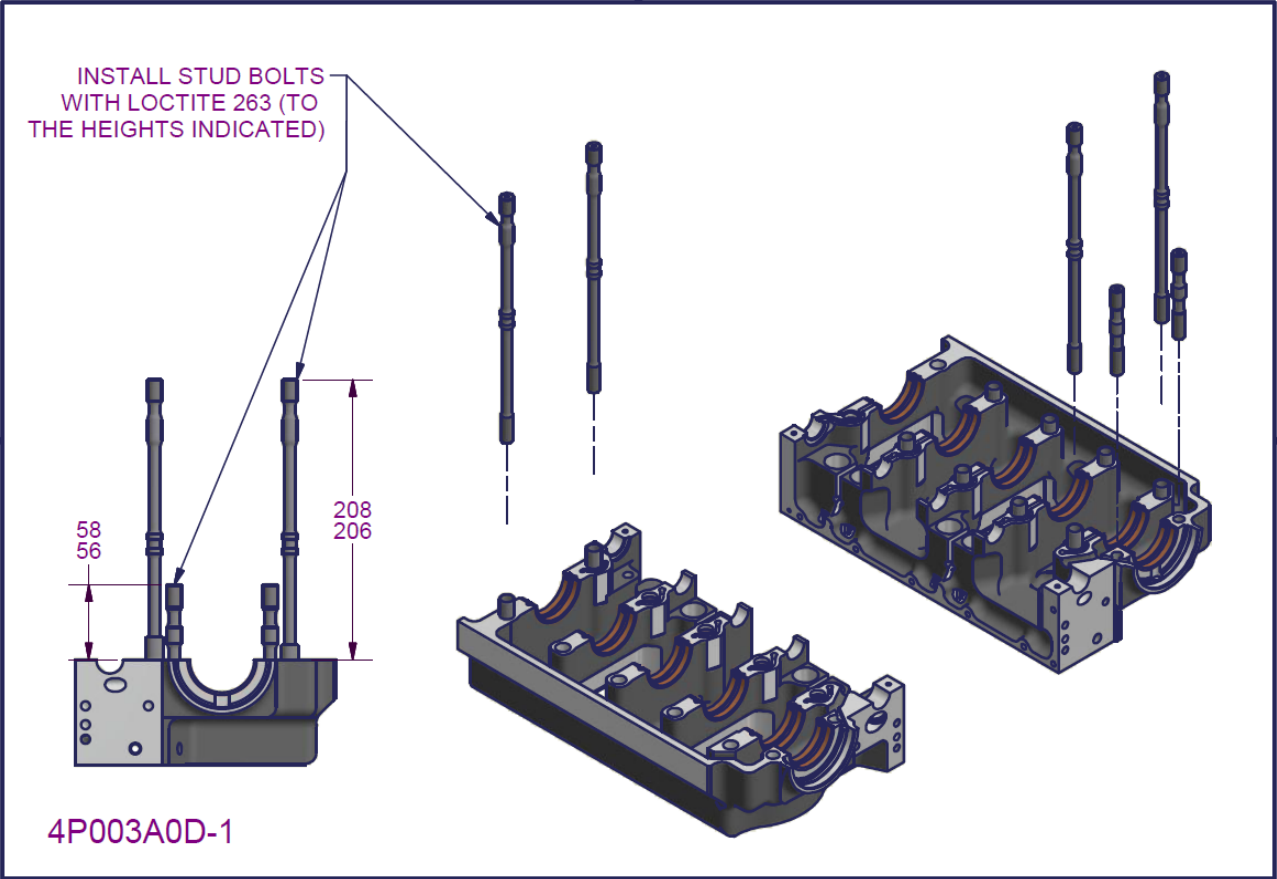

Figure 20 – 2200/330 crankcase subassembly 7
- The stud-bolts should be installed into the crankcase so the exposed height above the surface of the crankcase measured as indicated in Figure 20